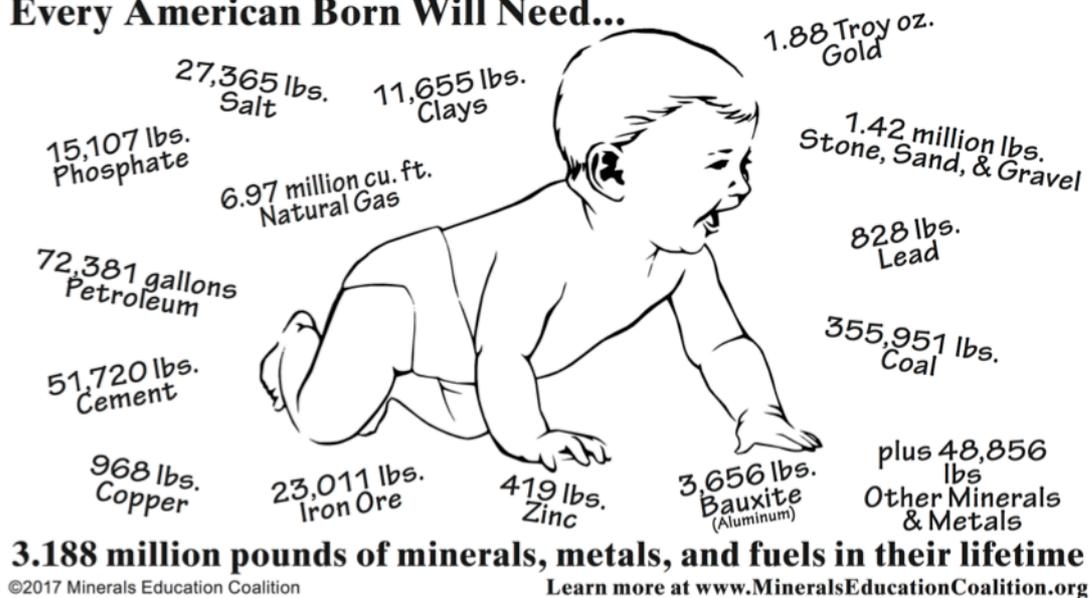

Figure 1: Minerals Baby MEC [1]
3.1. Shear Volume. While the precise volume of bulk solids moved annually is incalculable, we can use coarse grain estimates to get some empathy. For example, each year the Minerals Education Coalition (MEC) [1] determine the lifetime per-capita consumption of common minerals and metals published in the form of their "Minerals Baby" (Figure 1).